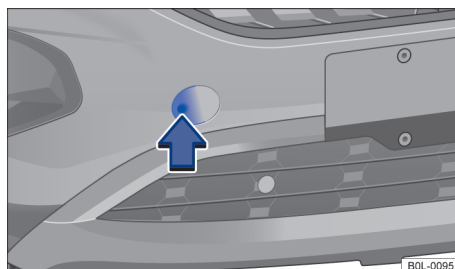

Fig. 131 In the front bumper on the right: removing the cover
- Press the marked area of the cover in the direction of the arrow → Fig. 131 to release the cover catch.